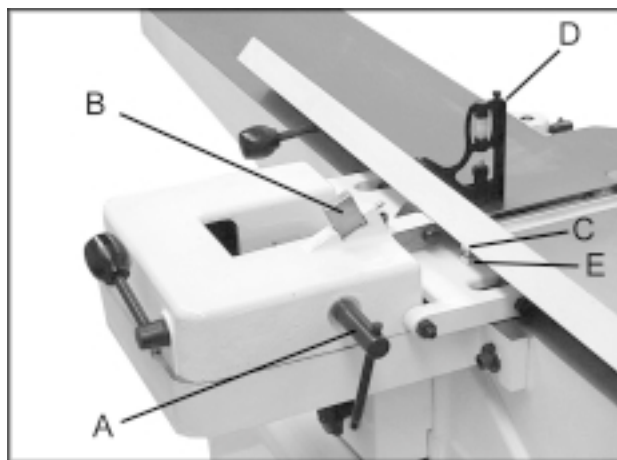

Fig. 7
1. Loosen lock handle (A, Fig. 7). Move the stop plate (B, Fig. 7) out of the way and position the fence at the 45° angle. Make sure the fence sits against the stop bolt (C, Fig. 7).
2. Place a combination square (D, Fig. 7) on the fence and table to confirm a 45° setting.
3. To adjust, loosen lock nut (E, Fig. 7), turn bolt (C, Fig. 7) until a 45° angle is obtained, and tighten lock nut (E, Fig. 7). Tighten lock handle (A, Fig. 7).